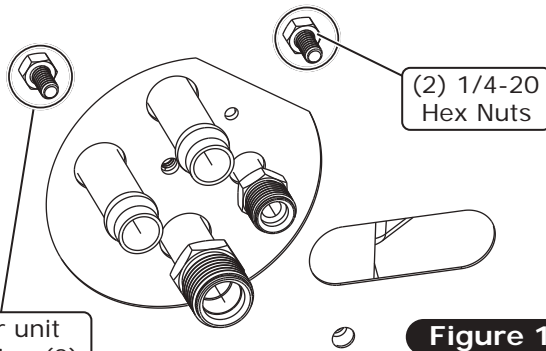

Figure 1
- Lift the evaporator unit into position, using the (2) 1/4-20 full-threaded studs to locate the correct mounting position, then secure with (2) 1/4-20 hex nuts (See Figure 1, below).